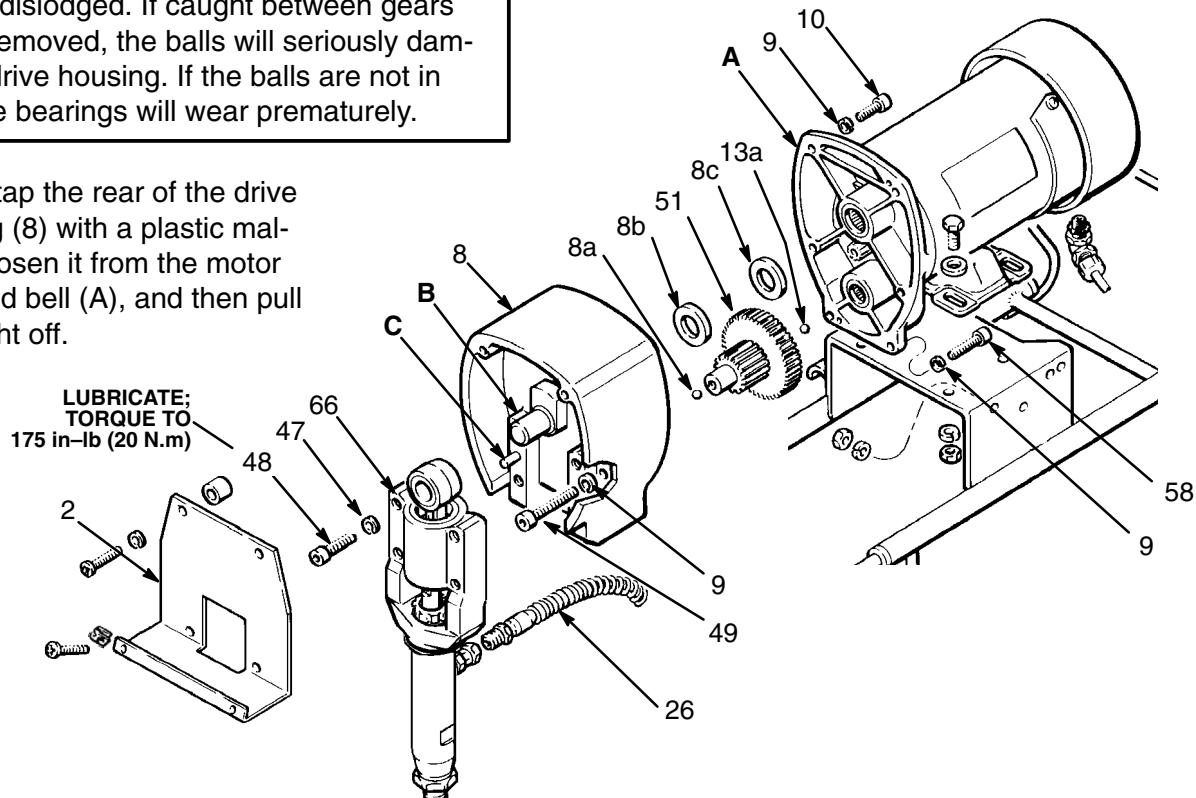

Fig 19
**NOTE:** Refer to Fig 19 for this procedure.
1. Remove the sprayer's shroud. Remove the lift handle (2).
2. Remove the screws (48) from the bearing housing (66). Lightly tap the rear of the bearing housing with a plastic mallet to loosen it from the drive housing (8). Pull the bearing housing, connecting rod and pump assembly off the drive housing.
3. Remove the screws (49) from the drive housing. Remove the screws (10 and 58) from the motor front end bell (A).
9. Continue reassembling the parts in the reverse order of disassembly. See the torque note in Fig 19.